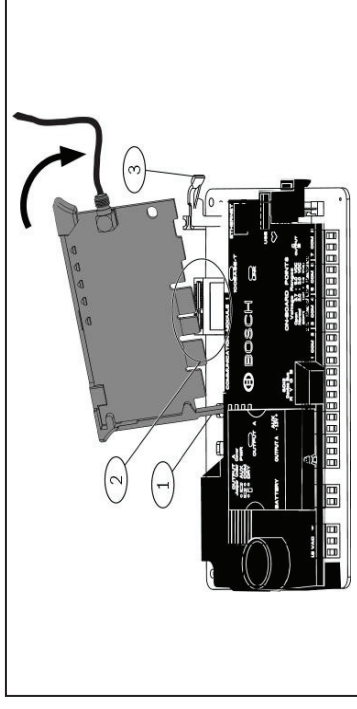

Figure 2.3: Installing the module
1. With the module facing the control panel as shown in Figure 2.3, insert the support leg into the support hole labeled X.